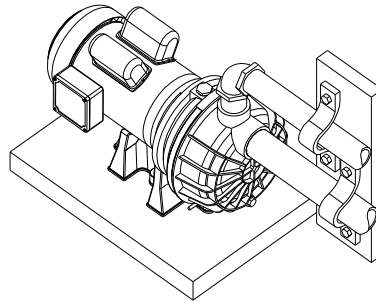

Figure 5
2. Support all piping connected to pump (See Figure 5).